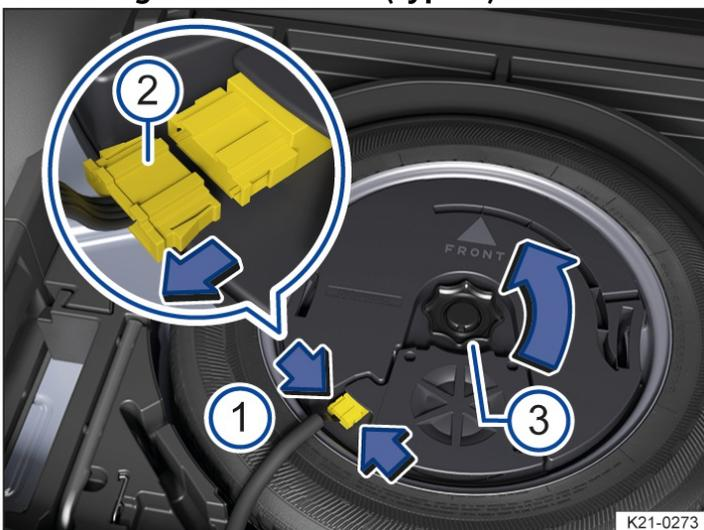

Fig. 1 In the luggage compartment: removing subwoofer (type 1).
2. To release the connector → Fig. 1 ², press the lugs together (arrows ¹).
3. Pull off the connector → Fig. 1 ² as shown by the arrow, and place the disconnected electrical cable to one side.
4. Unscrew handwheel → Fig. 1 ³ in the direction of the arrow.